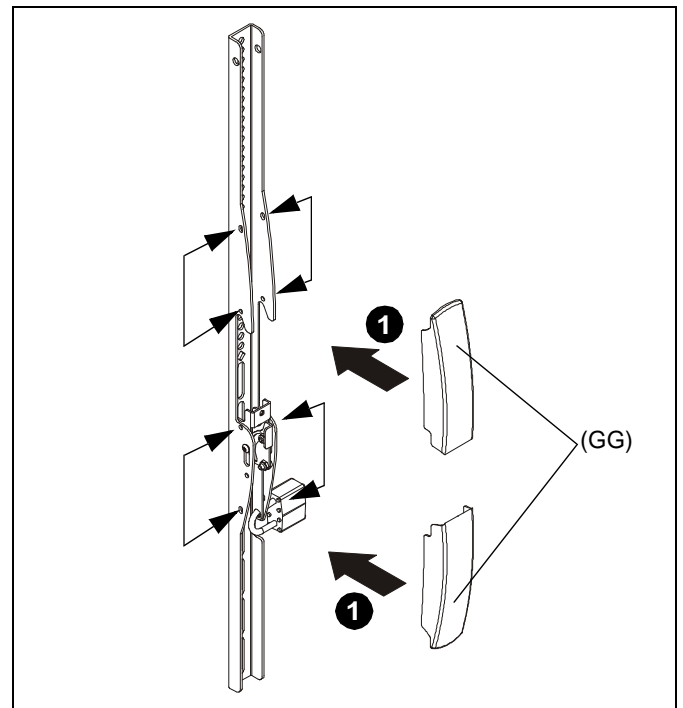

**Figure 13**
1. **OPTIONAL:** Add padlock (not included) to each interface bracket to lock display to ceiling mount. (See Figure 13)